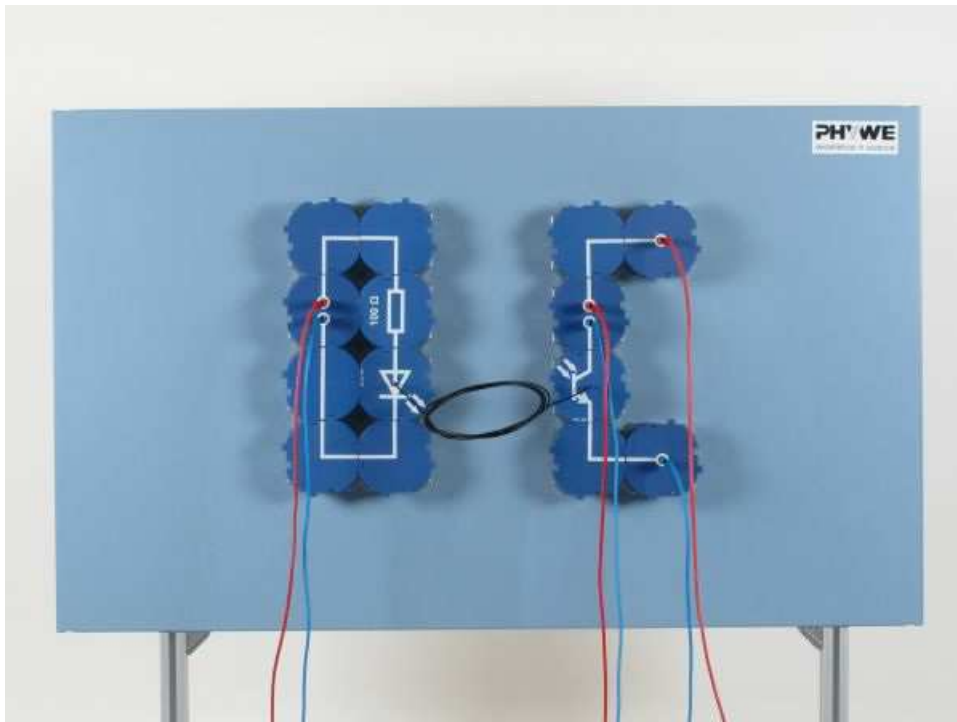

Fig. 2
- Expand the experimental set up to that in part 2 of Fig. 2; use the 5 kΩ loudspeaker connection (interrupted connector above the phototransistor); set a direct voltage of 10 V for the phototransistor (both single junction connection modules); ensure correct polarity; fit the light conductor to the lightemitting diode
- Change the frequency of the signal voltage of the function generator; pay attention to the pitch of the sound (2)